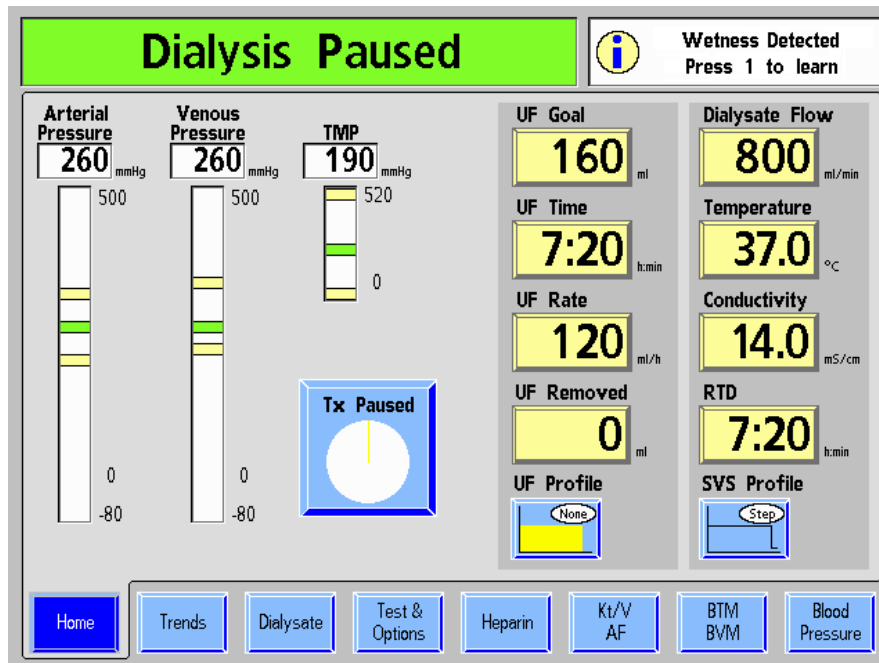

Figure 2 – Home screen: Wetness Detected #1
- The Wireless Wetness Detector will send a wetness signal to the machine. Make sure that an audible alarm sounds and the Status Bar turns red and displays the message “Wetness Detected #1” (see Figure 2).